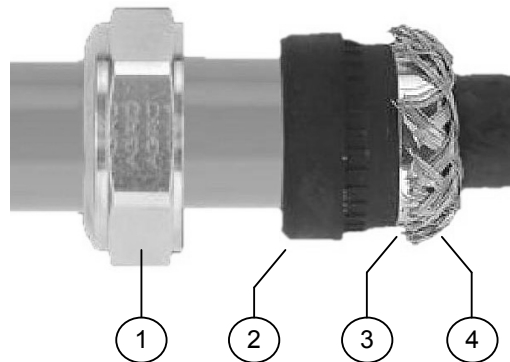

Figure 7: Cable shield
- 1 Push the cap nut (1), seal insert (2) and gland contact socket (3) onto the cable.
- 3 Bend over the screen braiding (4) over the gland contact socket and cut back the screen braiding as shown in Figure 7.